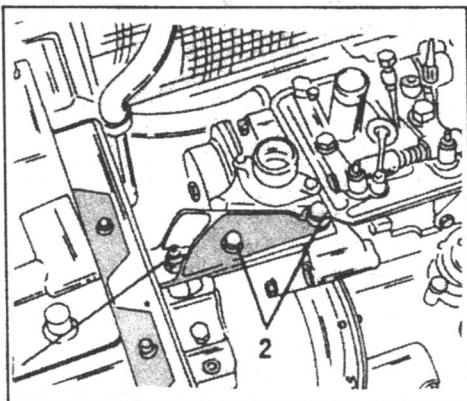

Fig. 158. — The engine mounting at the front of the engine.
- The nut securing the engine mount (1 in Fig. 158) must be tightened to 5.5 kgm (40 ft.lb.), the bolts (2) near the water pump to 5.0 kgm (36 ft.lb.).